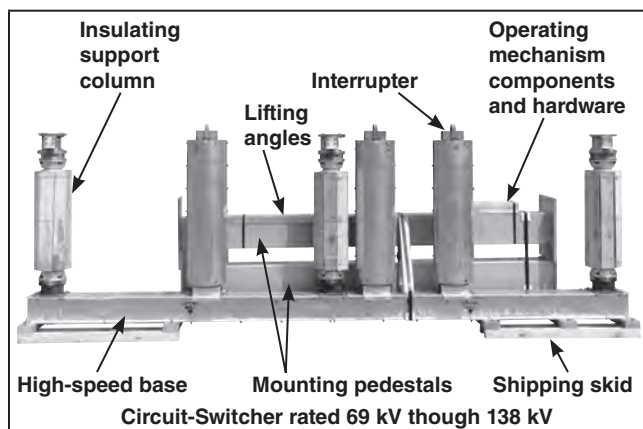

Figure 2a. Typical shipment of Model 2030 Series 2000 Circuit-Switcher. Operator is shipped on a separate skid. (69-138 kV)
STEP 1. For circuit-switchers rated 69 kV through 138 kV: Cut the steel straps that bind the mounting pedestals to the high-speed base and the straps that bind the container of operating mechanism components and hardware and the straps that bind the pole-units using a steel strapping cutter. See Figure 2a on page 10.